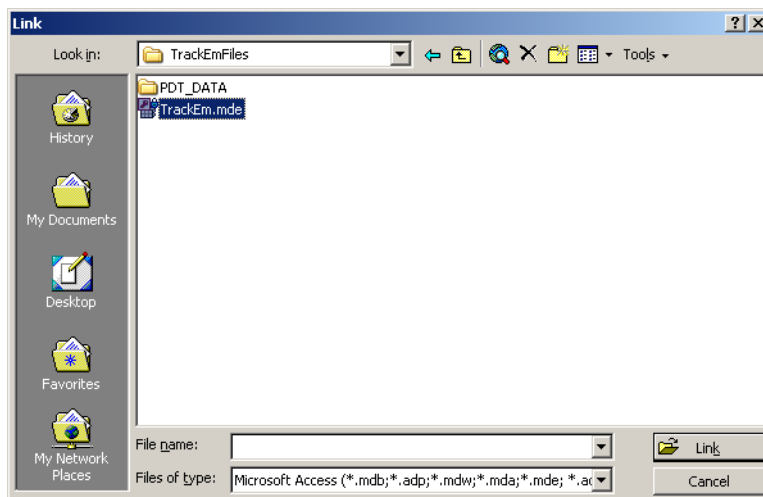

Figure 78
Step 9 – After clicking OK on Figure 76, Figure 78 will appear as shown. Click OK and the ODBC DSN is complete.